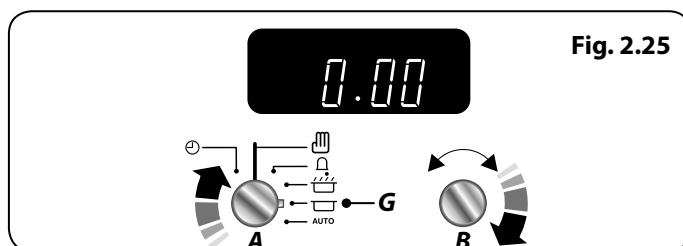

Fig. 2.25
1. Turn the **Timer (A)** knob to the **Stop Time (G)** setting (**Fig. 2.25**).
2. Turn the **Adjusting (B)** knob clockwise, the display will show the current time of day (**Fig. 2.25**).